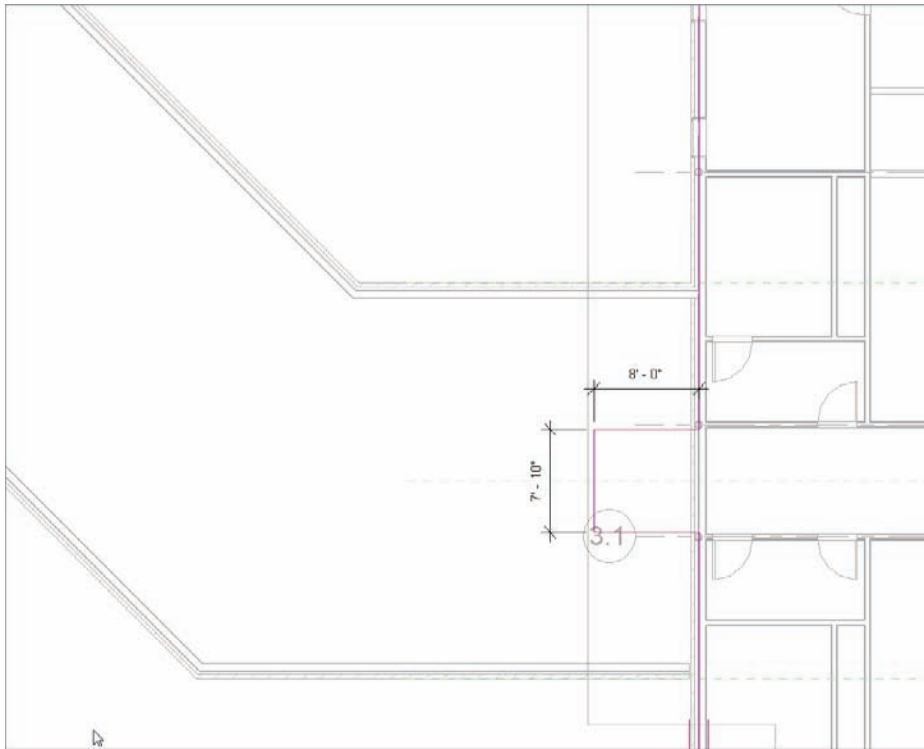

FIGURE 10.33 Creating a landing. You will add a door in a moment.
2. Zoom in on the area between the corridor and the east wing, as shown in Figure 10.33.
5. Sketch a landing that is 8'-0" (2400mm) long \times 7'-10" (2350mm) wide, as shown in Figure 10.33. Center it on the reference plane.